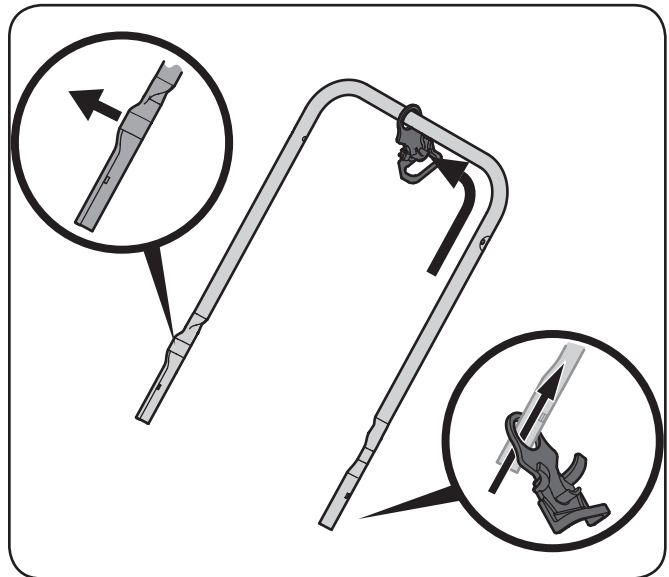
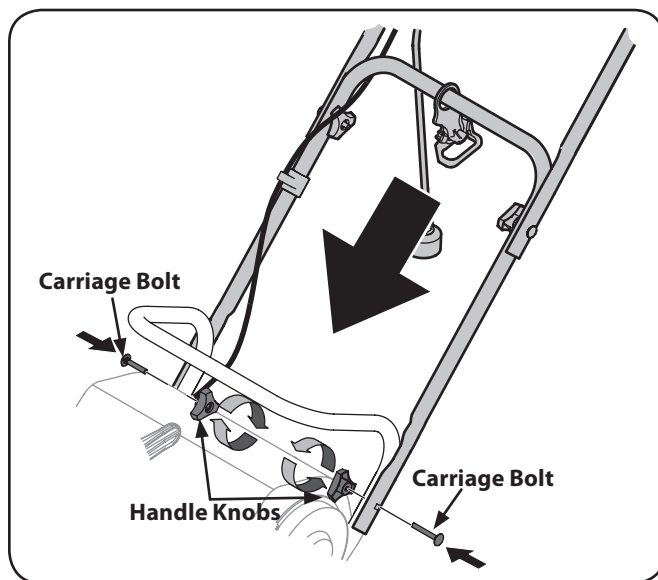

Figure 3-2
Figure 3-4
1. Install the strain reliever on the mid handle. See Figure 3-2.
3. Ensure that the cord retainer is on the mid handle's crossbar. Refer to Figure 3-2. Place the mid and upper handles onto the lower handle. See Figure 3-4.
4. Insert wing knobs and carriage bolt and tighten to secure upper handle and mid handle to the lower handle. See Figure 3-4.